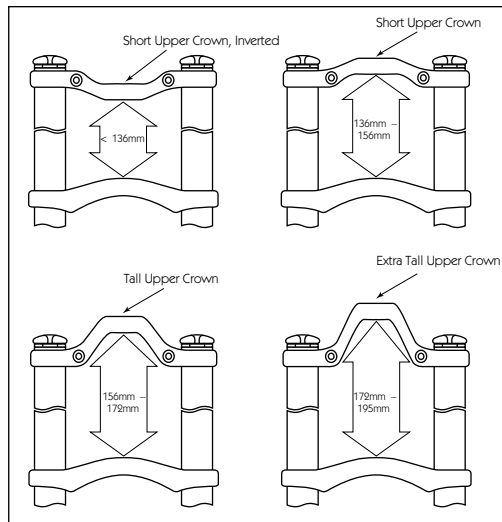

Fig. 2
2. Before you install a XL on the bicycle, verify that the fork has been supplied with the correct upper crown. Refer to Fig. 2 for upper crowns available for XL and to maximize fork stiffness by proper selection and orientation of the upper crown.